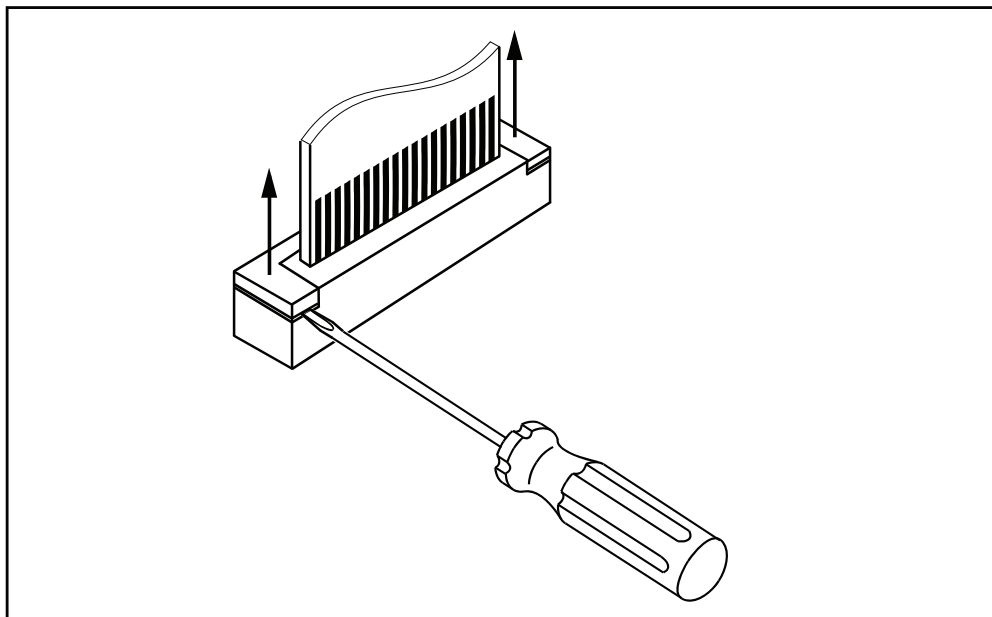

Figure 6-1. Flat Cable Connector
1. Unlock both flat cables by shifting the connector latch at the left and right edge with a small screwdriver. The latch is an integral part of the connector body. See Figure 6-1.